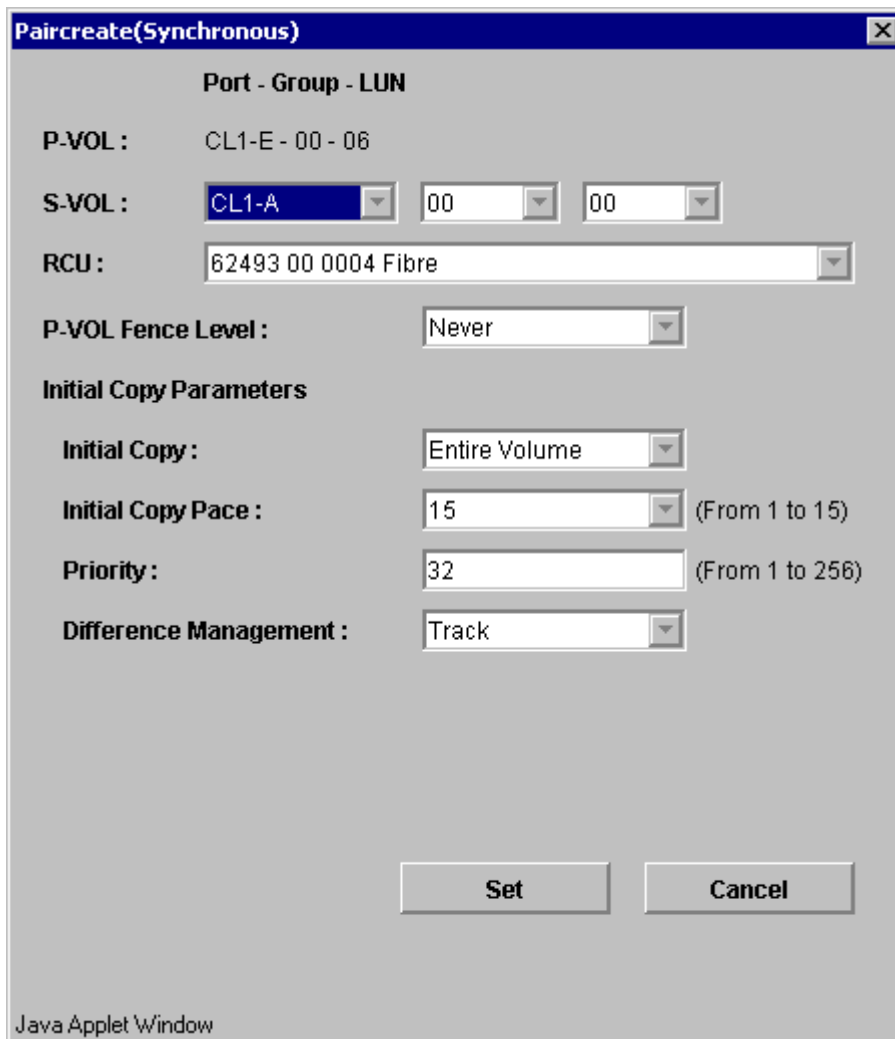
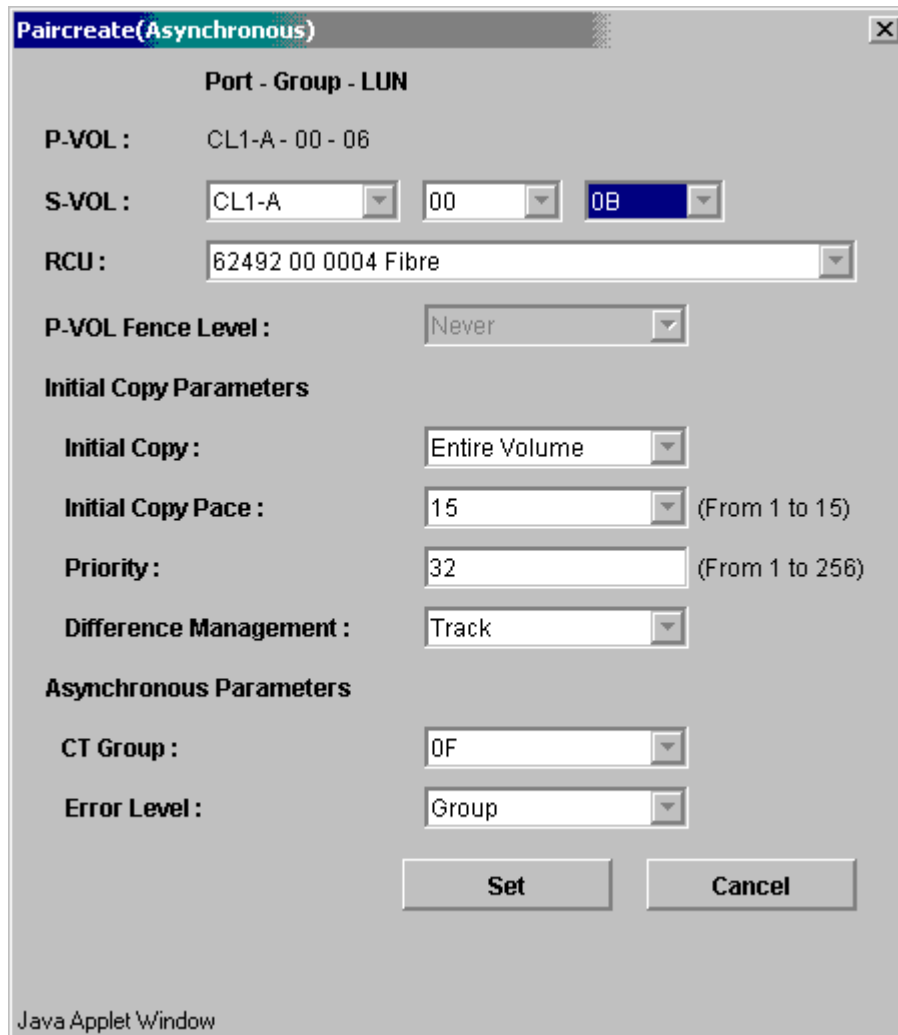

Figure 5.5 Paircreate Panel for Synchronous Pairs
Figure 5.6 Paircreate Panel for Asynchronous Pairs
The Paircreate panel (see Figure 5.5 and Figure 5.6) allows you to create new TrueCopy pairs and set the initial copy options and pair options for the new pairs. To open the Paircreate panel, select the **Pair Operations** tab, select the desired MCU CU image, select the LU(s) which will be the P-VOL(s) of the new pair(s), right-click, select **Paircreate**, and then select the desired copy mode (sync or async) for the new pair(s).
4. Select the LU(s) which will be the P-VOL(s) of the new TrueCopy pair(s). You can create multiple pairs at the same time only when: (1) the S-VOLs are in the same RCU, and (2) the pairs have the same copy mode (sync or async). You cannot create TrueCopy Sync pairs and TrueCopy Async pairs at the same time.
5. Right-click, select **Paircreate**, and then select the desired pair mode (Synchronous or Asynchronous) to open the Paircreate panel (refer to Figure 5.5 and Figure 5.6).